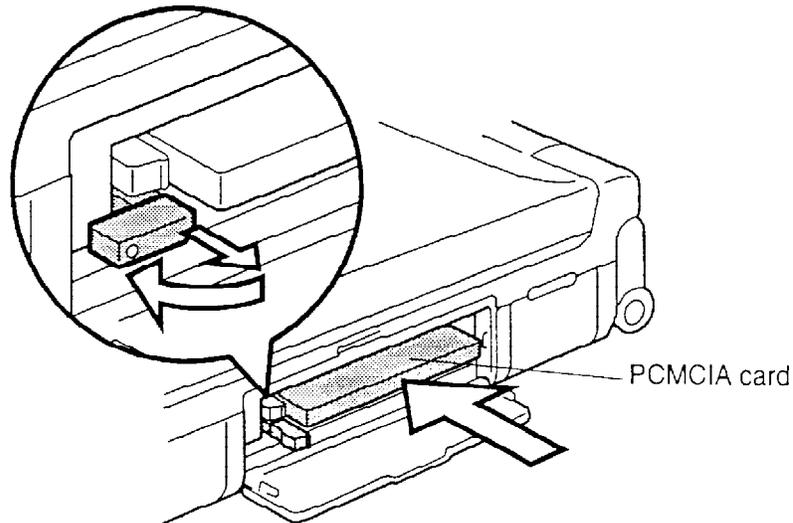

Figure 4-8 Installing the PCMCIA card
To install an optional PCMCIA card in the 610CT, follow the steps below and refer to figure 4-8.
1. Insert the PCMCIA card as shown in figure 4-8. When the card is almost fully seated, you will feel some resistance. Press gently to assure a firm connection, but do not force the card into position.